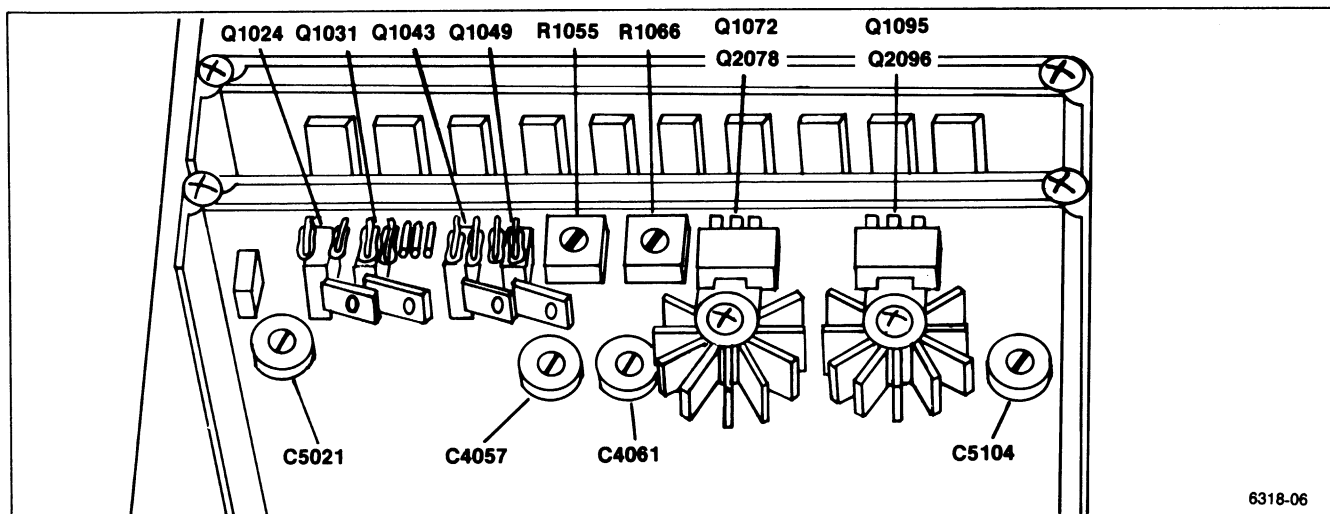

Figure 5-6. Deflection Amplifier test points and adjustments.
k. Monitor the collectors of Q1031 and Q1024, on the Deflection Amplifier board, with the test oscilloscope. See Figure 5-6 for the locations of Q1031 and Q1024.
- n. Adjust C4057 (Figure 5-6) for the best response.